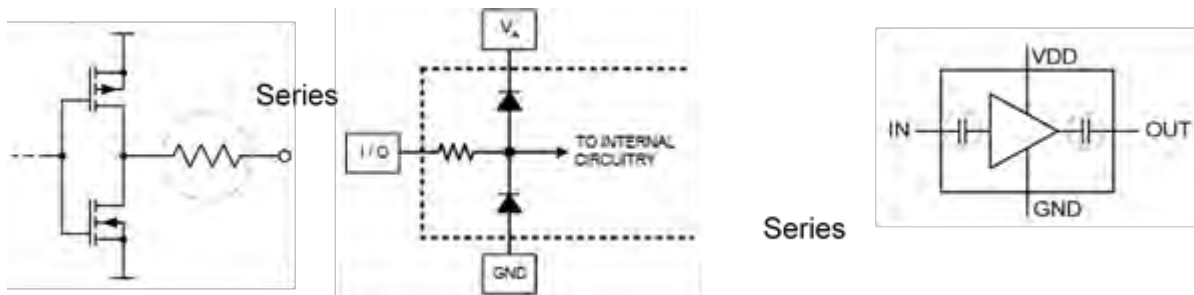

Figure 17 — Series Component Types
3. ACDC represents an AC signal superimposed on a DC signal as shown in Figure 17.